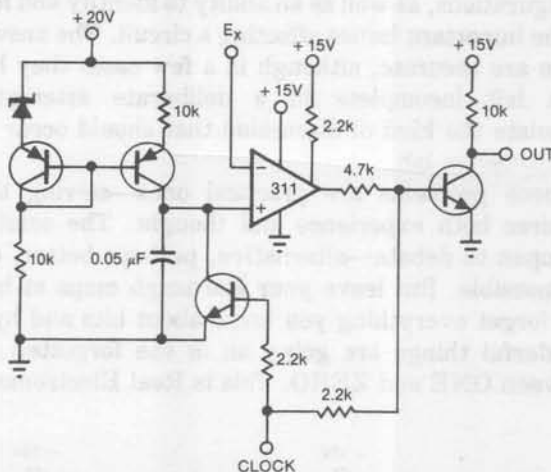

Fig 5—This pulse-width modulator's linearity varies with its clock frequency. What's at fault?
7. The circuit shown in Fig 5 is a pulse-width modulator. At a given clock frequency, its linearity (E_x vs pulse width out) is good (typically 0.01%), but when the clock frequency changes, the linearity varies slightly. What is at fault and why?